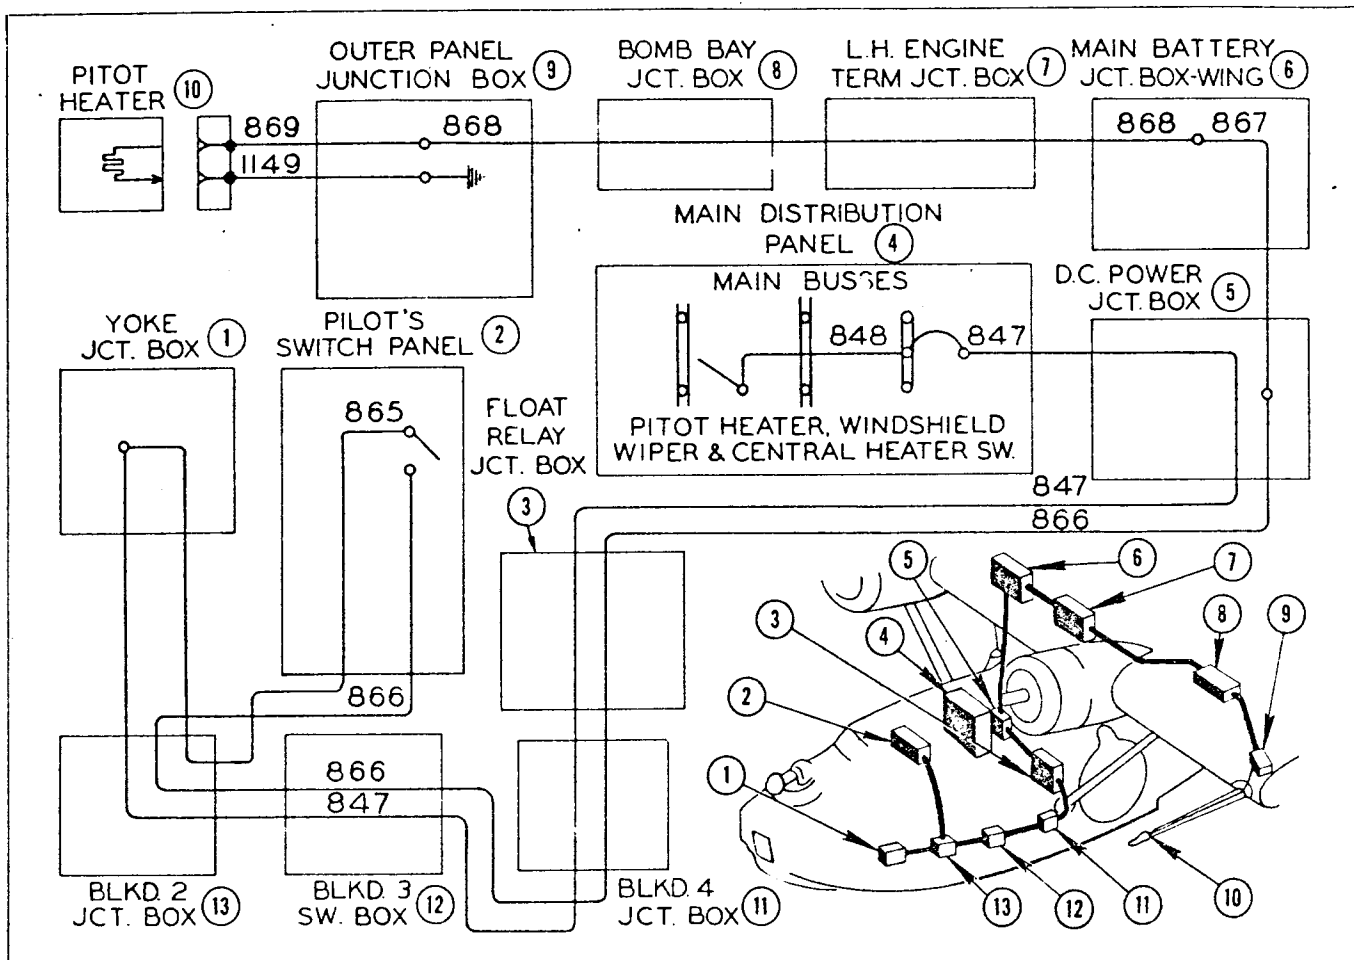

Figure 235—Pitot Head Heating Circuit
(1) **DESCRIPTION.** (See figure 235.)—This circuit supplies current to energize the heating unit in the pitot head to prevent icing. The circuit is protected by a 10 ampere fuse which also protects the anti-icer motor.
(a) Inspect wires in junction boxes shown on wiring diagram. (See figure 235.)